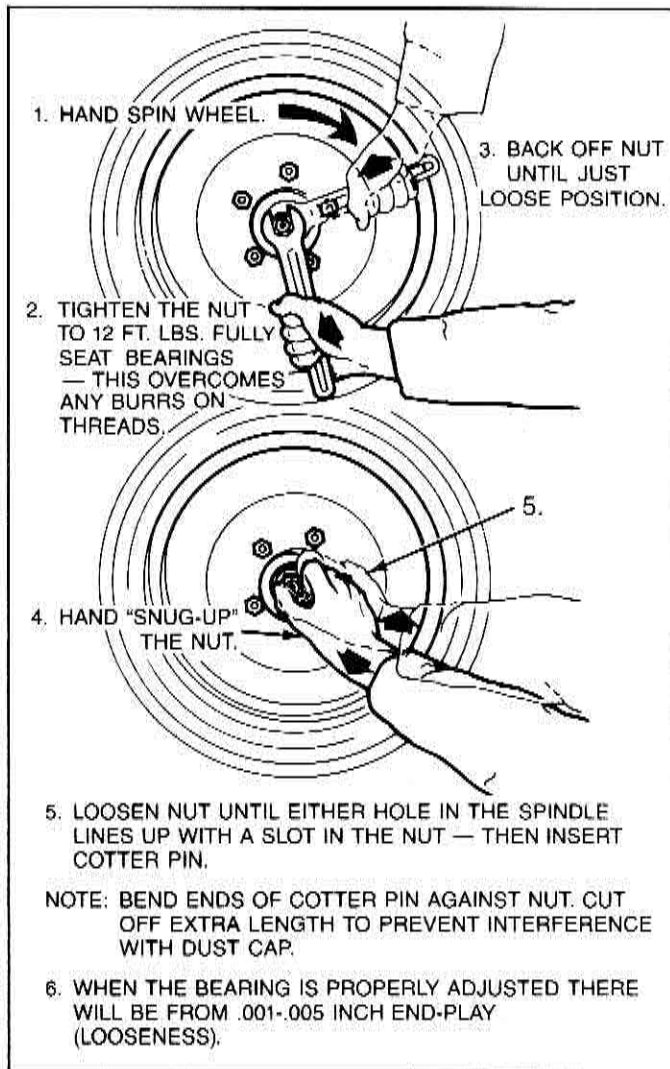

Figure 3-11 — Wheel Bearing Adjustment
4. Tighten the spindle nut to 12 ft. lbs. while turning the wheel assembly forward by hand to fully seat the bearings. This will remove any grease which could cause excessive wheel bearing play later. Refer to Figure 3-11.